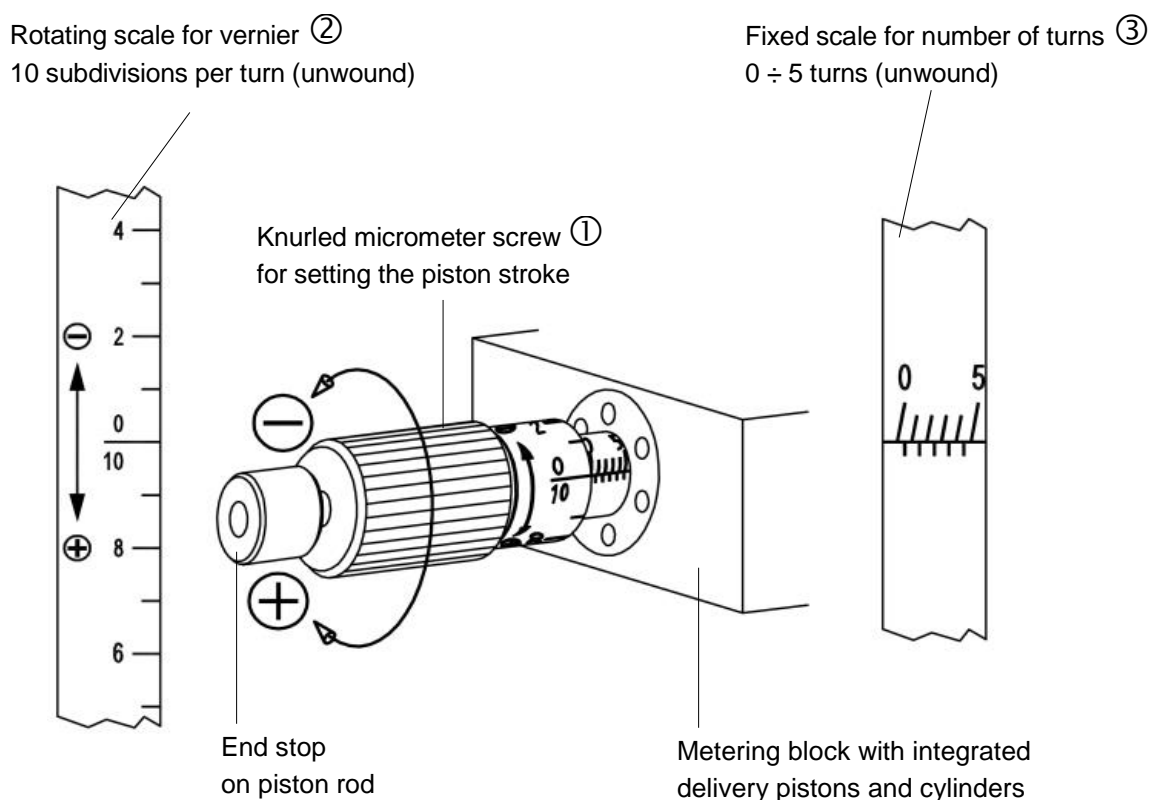
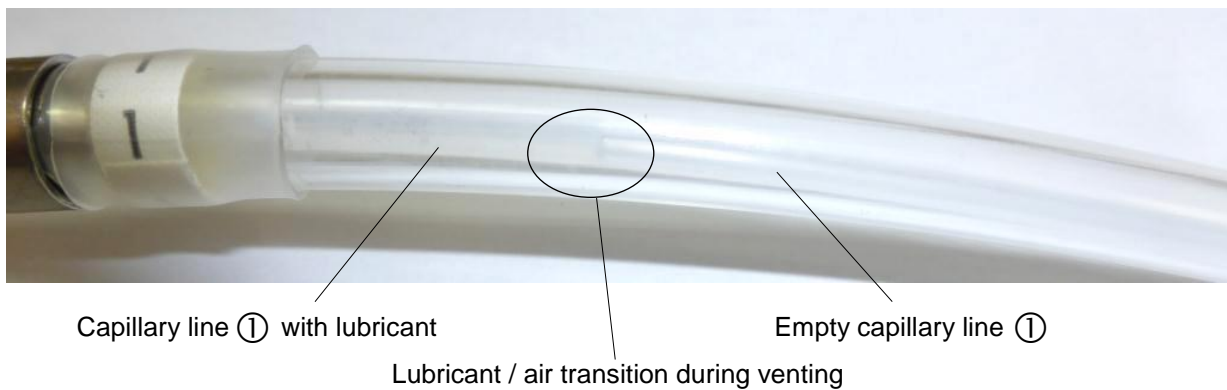
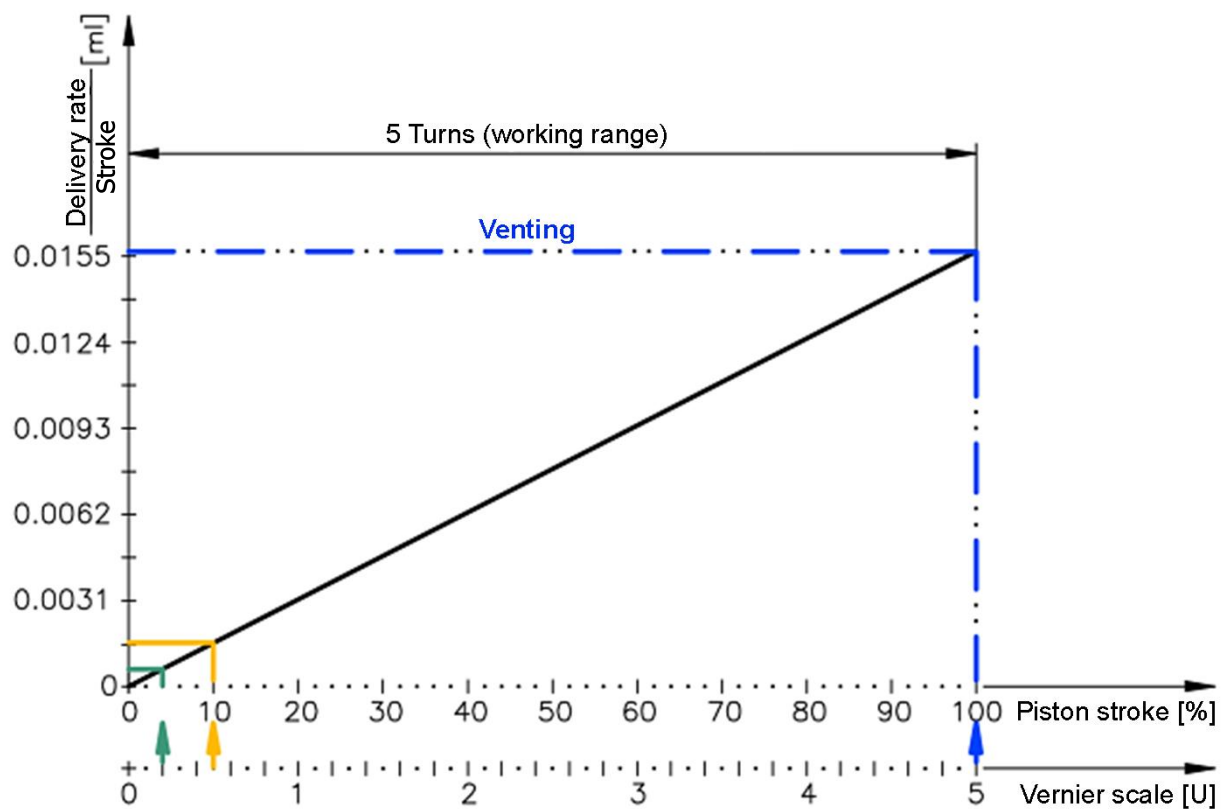

Fig. 10: Metering pump – regulating knob, metering stroke setting with micrometer display for stepless adjustment 0 ÷ 5 turns (0 ÷ 100% delivery rate)
Fig. 18: Capillary line ① filling with lubricant during venting
Fig. 19: Delivery rate as a function of the piston stroke
- 6.1 Setting the metering quantity: The micro metering pump meters the lubricant precisely and at high pressure. The piston stroke and thus the delivery rate can be steplessly varied by turning the micrometer screw (Fig. 10 ①), the total adjustment range being 5 turns.
The set values can be read off precisely from the two scales on the micrometer screw (Fig. 10 ② and ③), each mark on the scale representing a 2% change in the piston stroke. Experience has shown that the optimum working range is between 0.1 and 0.5 turns (corresponding to 2% and 10% delivery rate, see Fig. 19).
($\hat{=}$ 10% delivery rate, *Fig. 10*)
8.2.3 Increase the piston stroke of the metering pump to its maximum (open by 5 turns Fig. 10 ① and Chapter 6.1).
8.2.6 Operate the piston rod by hand. To do this, press the end stop of the micro metering pump (Fig. 10) against the micrometer screw approx. 20 times. With no lubricant in the capillary line (Fig. 18 ① inner pressure hose of the coaxial feed line), lubricant can be seen to enter the capillary line after approx. 18 strokes and air is removed from the hydraulic system.
10.1 The following diagrams (*Fig. 19 & 20*) and calculations allow the lubricant consumption to be determined for different settings. The values are based on continuous operation; when coupled with the work process (e.g. feed rate), reductions in consumption of 50% or more can be achieved. The settings are made according to Chapter 7.
Consumption with 0.5 turns of micrometer screw and 20 pulses/minute (*Fig. 19 & 20*)
Consumption with 0.2 turns of micrometer screw and 5 pulses/minute (*Fig. 19 & 20*)